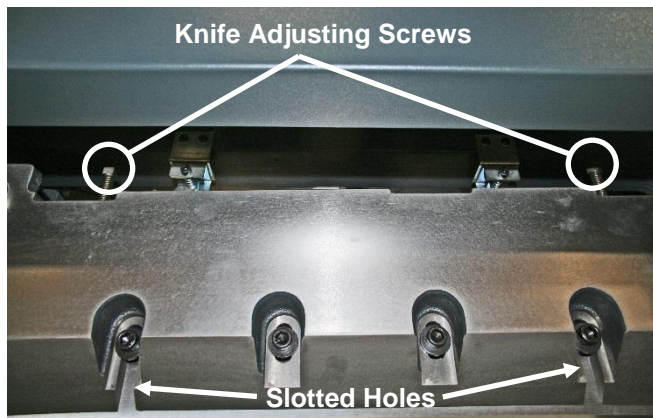

Figure 21
3. Back off the knife adjusting screws on top of the knife bar several turns (Figure 21). A new knife will cut deeper than one that has been ground several times. Failure to back off the screws could damage the knife and/or the cutting stick.
4. Remove the knife bolts from the two slotted knife bar holes (Figure 21) and replace with the knife lifters (Figure 22). Tighten the lifters to hold the knife in place, and then remove the remaining knife bolts.
6. Double check to make sure the knife adjusting screws have been backed out all the way (Figure 21, page 24). Guide the blade, left edge first, into the space between the knife bar guide frames on the left. Move the right end of the blade into the machine, under the knife bar slot. Align the lifters with the slots in the knife bar, raise the knife into the knife bar slot as high as it will go and tighten the lifters.